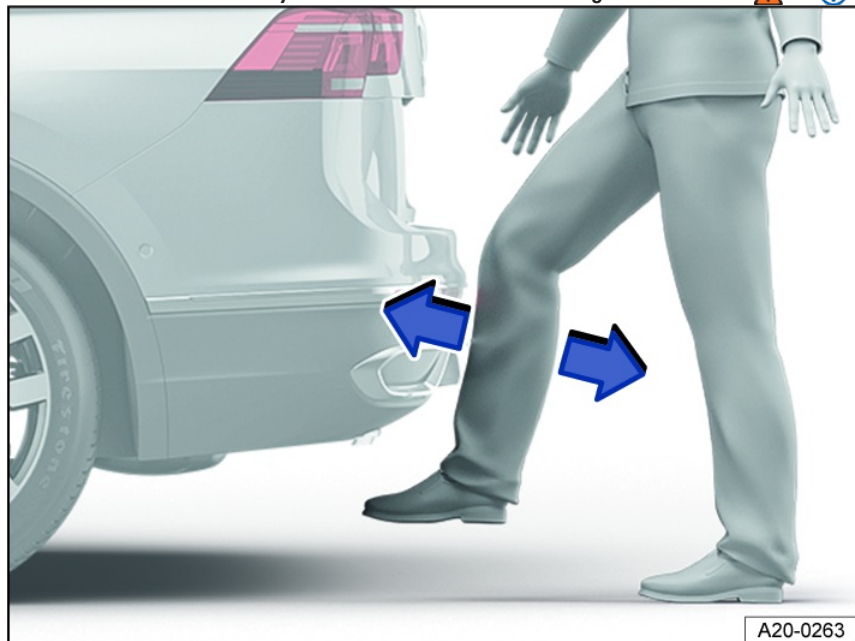

Fig. 63 General example of the trunk lid with sensor-controlled closing (Easy Close).
2. Quickly swing the lower part of your leg close to the bumper fig. 63.